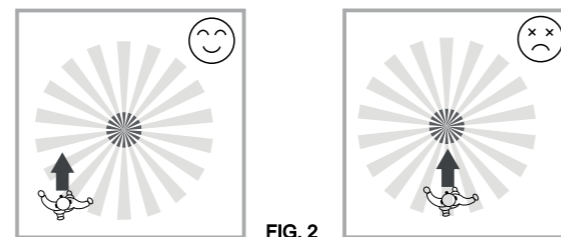

FIG. 2
3.1.2 Pay attention to the walking direction in the test proceeding. It is more sensitive to movement across the detector and less sensitive to movement directly toward to detector which will reduce the detection coverage (See FIG.2).